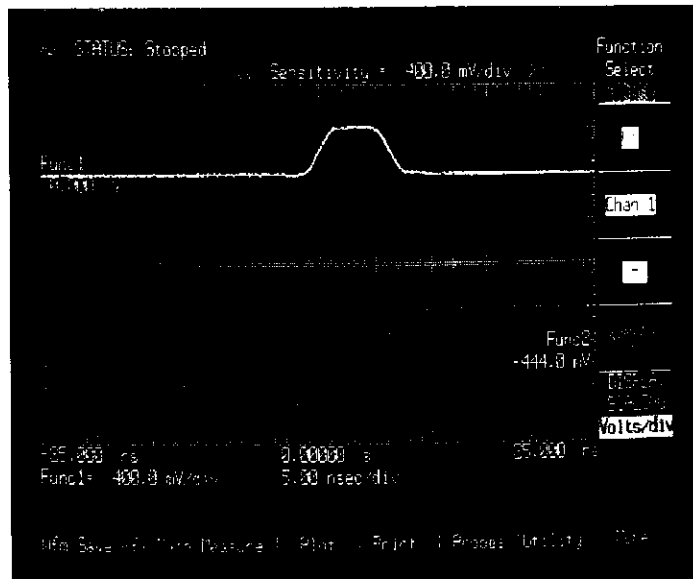

Figure 7-27 Waveform Math Func 1 & 2.
*The display should resemble figure 7-27 with func 1 (chan 1 - chan 2) at the top of the display and func 2 (chan 1 + chan 2). If you has stored one of these functions in a waveform memory, mem 1-4 could have been used as an operand instead of chan 1 or 2.*